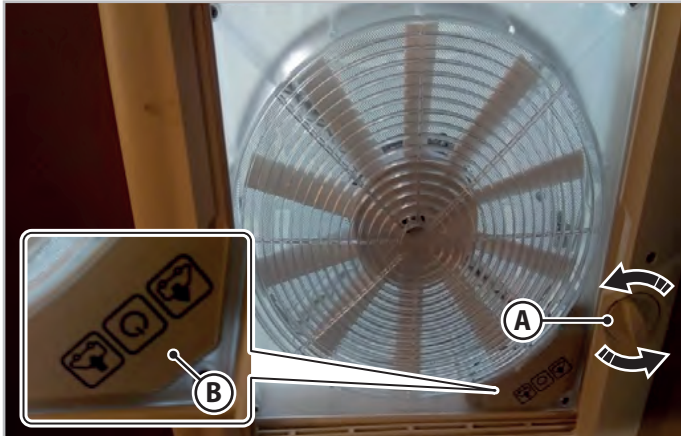

Fig.6.5 - Skylight with handwheel
Turn the handwheel (A - Fig.6.5) in either direction to raise (open) or lower (close) the skylight. The opening of the skylight can be adjusted to any intermediate position.
To use the ventilation and extraction function, open the skylight with the handwheel (A - Fig.6.5) and select the ventilation function with air in (IN) or out (OUT), using the key (B - Fig.6.5).